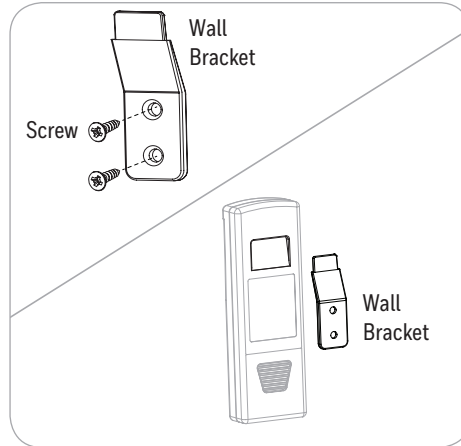

Figure 5.11
11. If desired, the wall bracket in remote pack can be installed to a wall using the provided mounting screws. Store the remote on the wall bracket when not in use (Figure 5.11).